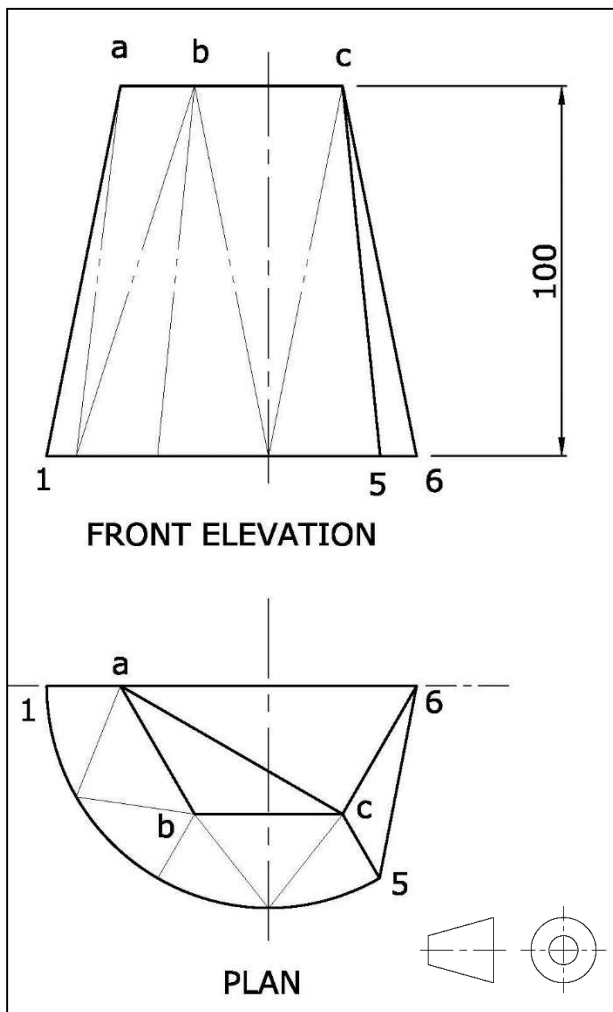
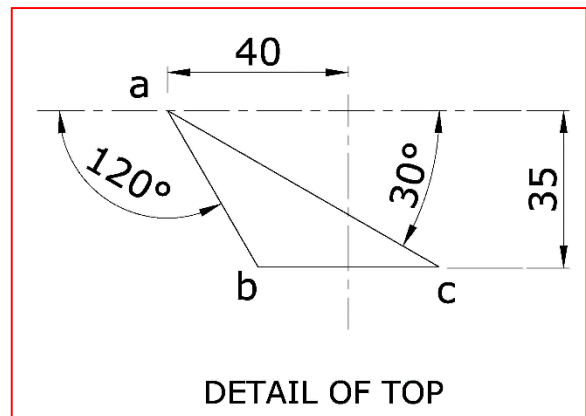
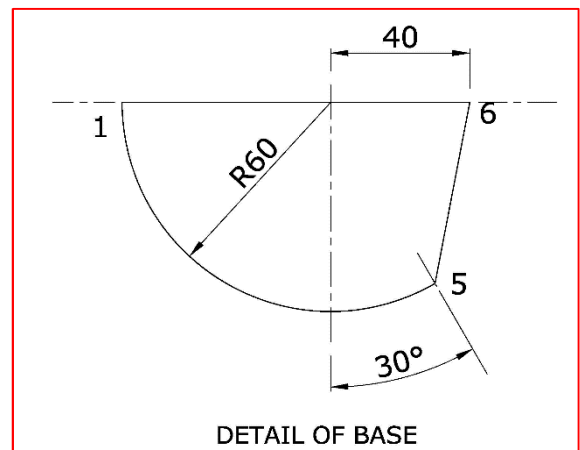

Figure 4b
Figure 4c
Figure 4d
- a) Copy, full size, the two views of the transition piece shown in Figure 4b. Details of the irregular shaped top and base of the transition are shown in Figure 4c and Figure 4d. (4)
- i. determine the true lengths required; (3)
- ii. draw the true shape of the sheet pattern before bending. (6)